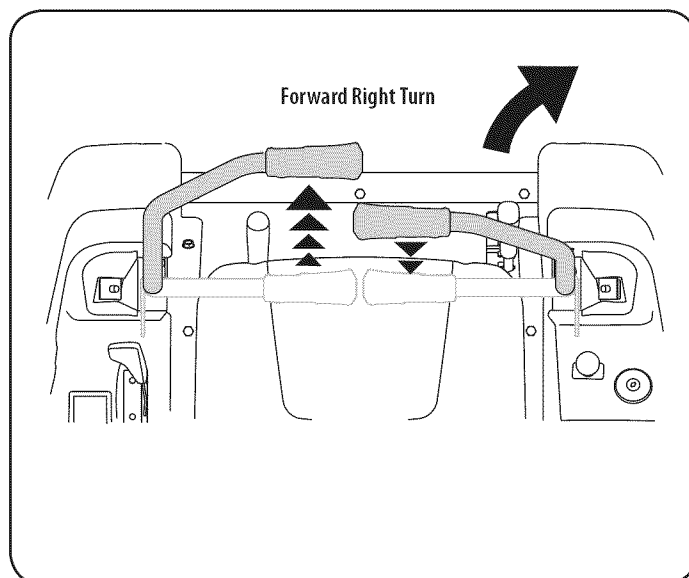

Figure 17
2. To turn to the right, move the right drive control lever rearward of the left lever. See Figure 17.